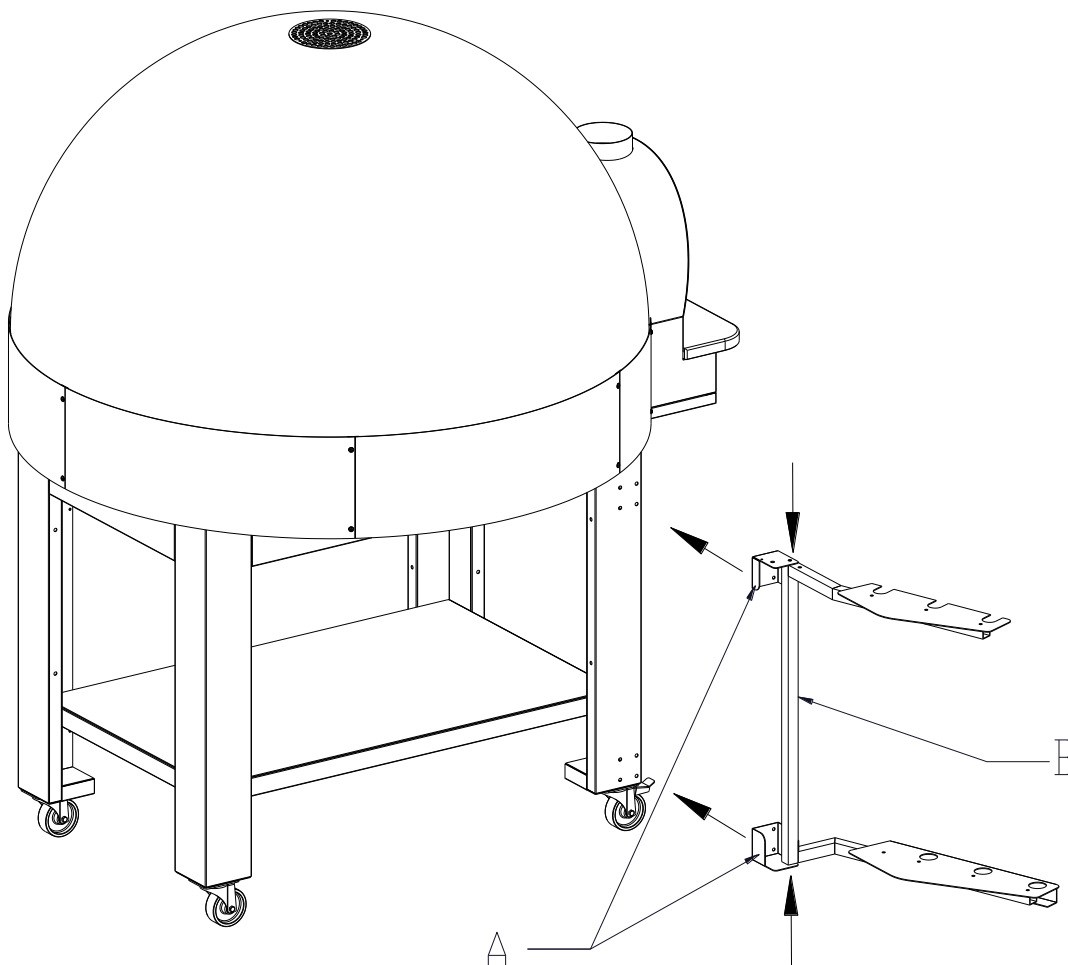

Fig.1
- 1- Insert the upper and lower brackets (A) into the frame (B).
- 2- Fix the brackets (A) to the base leg using the screws that are already in there (Fig. 1).